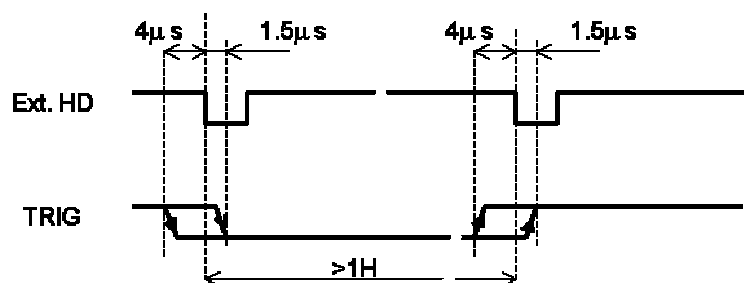

Fig. 8. Trigger HD relation
**Note:** In H non-reset trigger modes the exposure start can be delayed up to 1H. In pulse width control modes jitter in exposure time can be up to 1H. To avoid this <1H jitter, the trigger pulse should be synchronized to the HD as shown in fig. 8.
To avoid  $<1H$  time jitter in H non-reset mode, it is recommended to synchronize the trigger to HD as shown in fig. 8.
To avoid 1 H jitter it is recommended to synchronize the external trigger to the external HD signal as shown in fig. 8. The trigger falling and rising edge should be within the  $4 + 1.5 \mu$ s.
The falling edge of the trigger should be within 4.4  $\mu$ sec. from the falling edge of the ext. HD. (See fig. 8.).
In H-non-reset mode, where a continuous external HD is input, the exposure will start at the first HD pulse after the falling edge of the trigger. The exposure stops at the trigger rising edge. To avoid up to 1H time jitter it is recommended to synchronize the trigger to HD. The falling edge of the trigger should be within 4.4  $\mu$ sec. from the falling edge of the ext. HD. (See fig. 8.). The resulting video signal will start to be read out after the trigger rising edge. The WEN pulse indicates the start of valid video signal.